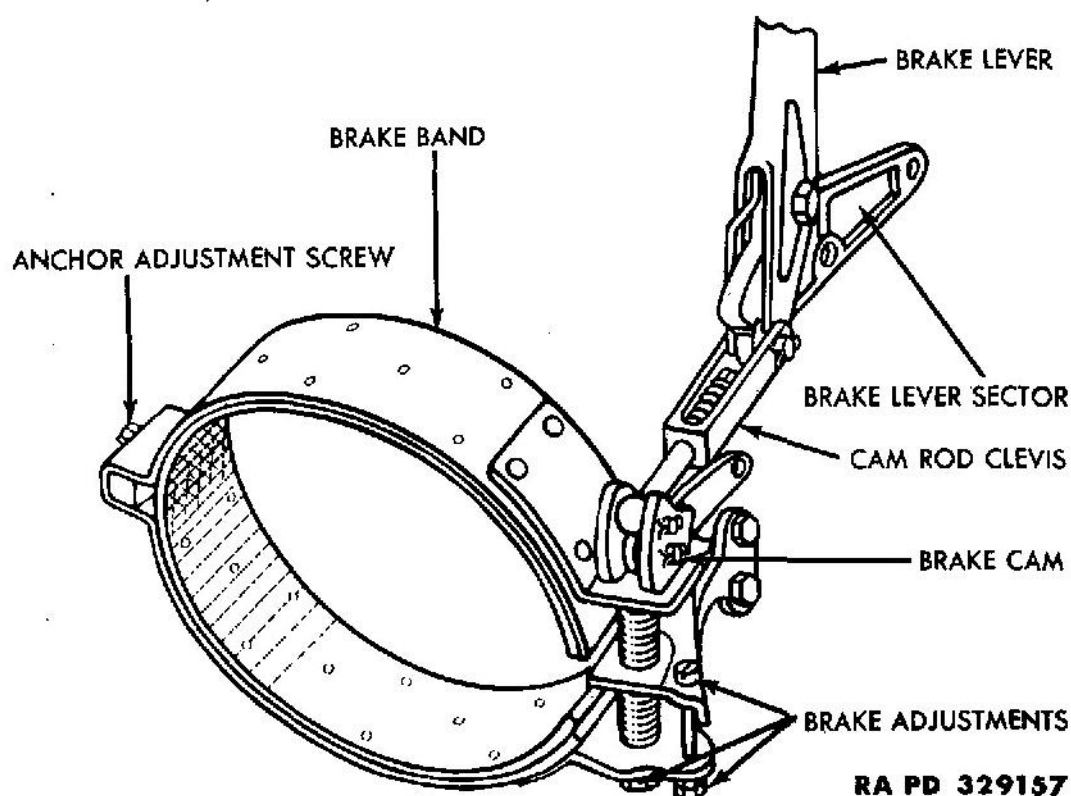

Figure 72 — Hand Brake System
(2) **HAND BRAKE.** The entire hand brake system is shown in figure 72. The hand brake is of the external-contracting type and operates on a drum on the transmission main shaft at the rear of the transmission. The hand brake is actuated by a hand lever.
a. Hand Brake Controls. The hand brake controls consist of a hand brake lever (fig. 72), hand brake lever sector, cam and connecting linkage.